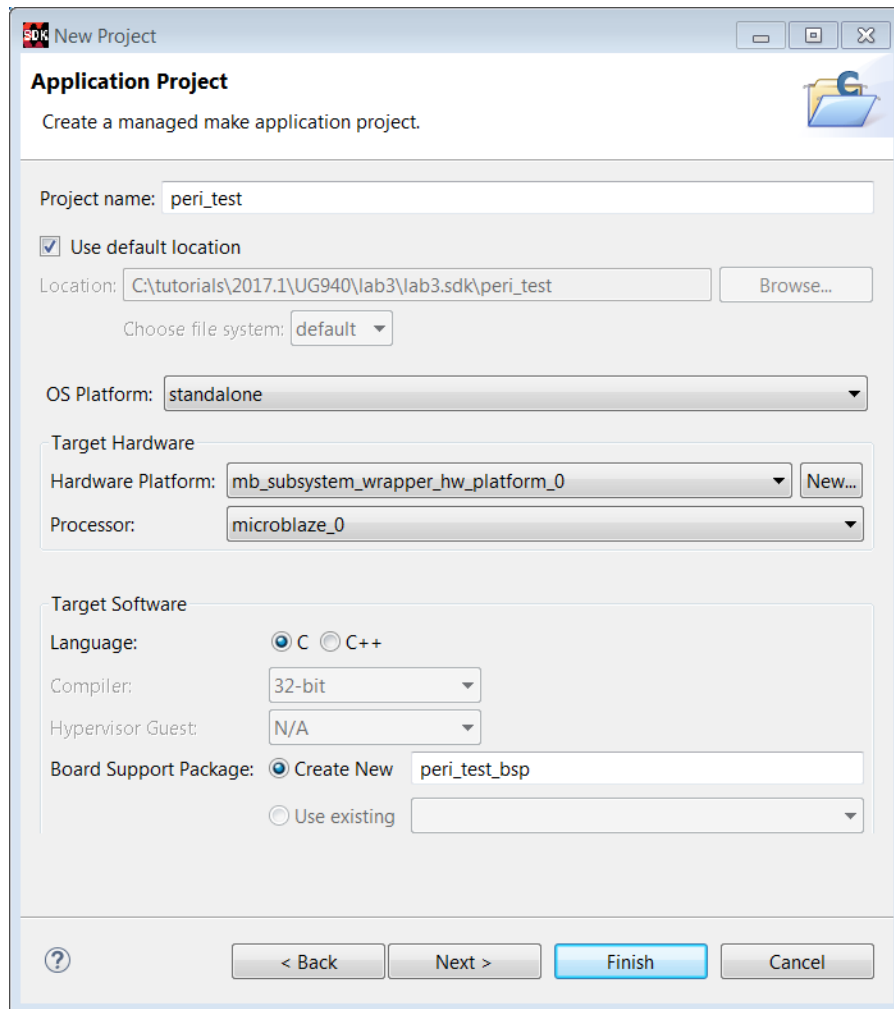

Figure 111: New Project: Application Project Wizard
4. Type a name (such as `peri_test`) for your project and choose standalone as the OS platform, as displayed in Figure 111.